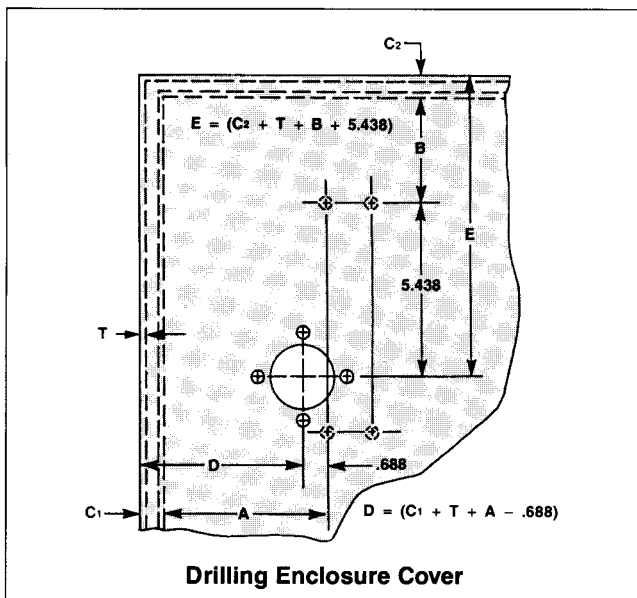

Figure 2
- Measure distances **A** and **B** from mounting holes to walls of the enclosure (Figure 2).